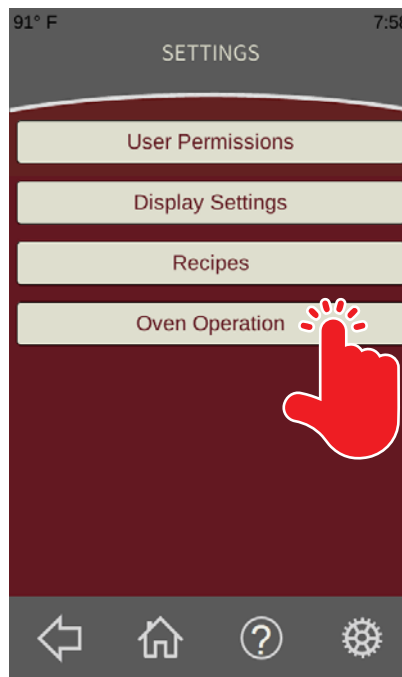

Fig. 62
1. From the **Settings Screen** (Fig. 62) touch the Oven Operation button (Fig. 62). The **Operation Settings Screen** should be displayed.